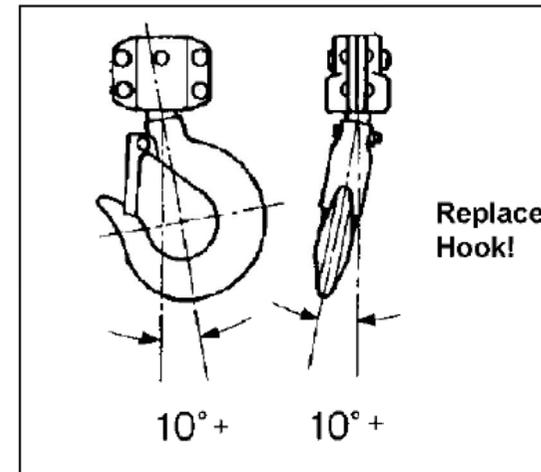

FIG 3
- The vertical angle at the neck of the hook reaches  $10^\circ$ , see (FIG 3).